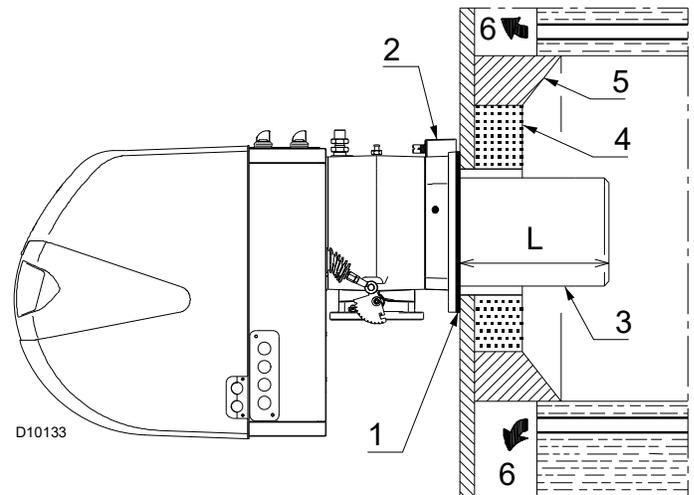

Fig. 10
- For boilers with front flue passes (6) or flame inversion chambers, protective insulation (4) must be inserted between the boiler refractory (5) and the blast tube (3).
- For boilers having a water-cooled front the insulation (4)-5)(Fig. 10) is not required unless it is required by the boiler manufacturer.
- Secure the flange (2)(Fig. 10) to the boiler plate, inserting the gasket (1)(Fig. 10).